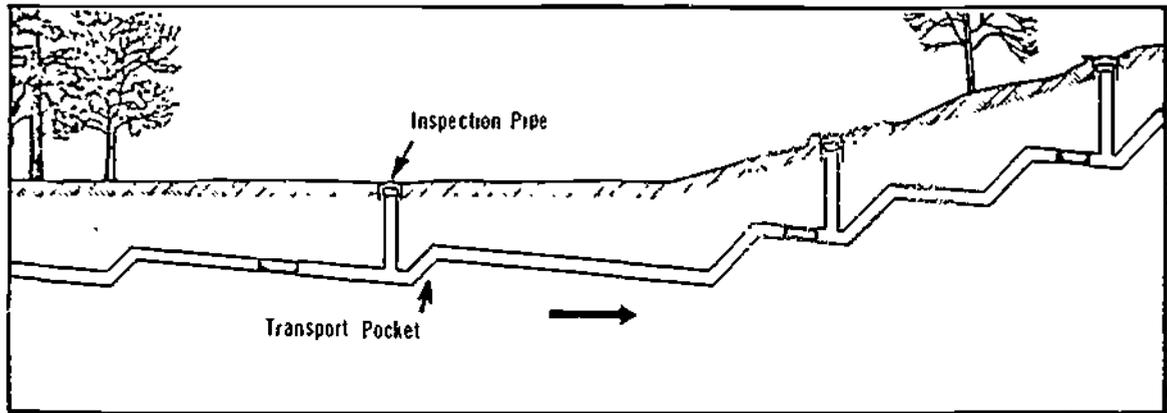

Figure 37-35. The Vacuum Piping Network
- The vacuum piping network, to transport sewage and distribute vacuum (Figure 37-35).
Vacuum sewage transport is essentially a plug transport, in which sewage in the form of a long plug or slug is propelled through the piping. Gravity, however, tends to break down the plug which has to be re-formed at certain low points, or transport pockets, installed at intervals. (See Figure 37-35.)